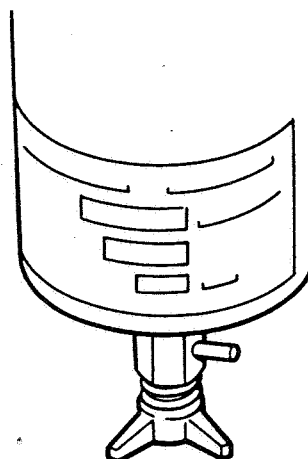

Fig. 5.5 Bleeding valve
- Depressurize drying filter by opening discharge valve (Fig. 5.5). Turn knob counterclockwise to open the valve.